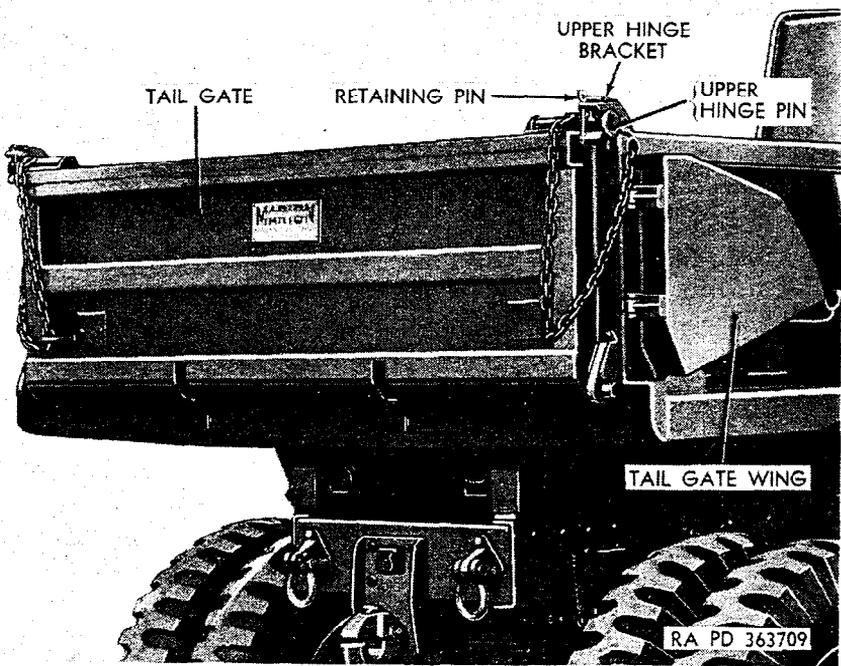
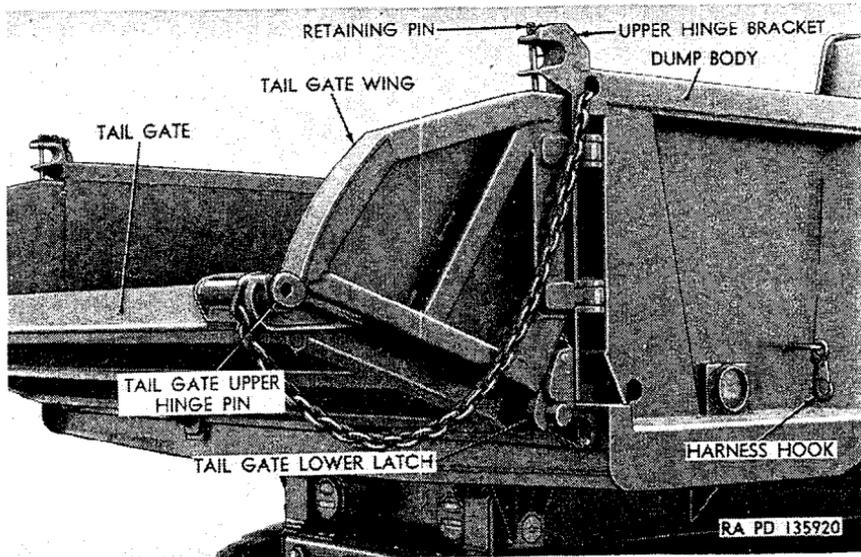

Figure 95. Dump body tailgate in closed position.
Figure 96. Dump body tailgate arranged for rocker operation.
- (8) Push the tailgate-control-rod hand lever up and back as far as it will go to lock the tailgate (fig. 95) in the closed position.
- (1) Position truck for dumping, and stop the truck (par. 46c).
- (2) Unfasten the harness hooks (fig. 95) used to secure the tailgate wings to the sides of the dump body, and swing the tailgate wings to the rear.
- (3) Remove the retaining pins (fig. 95) which secure the tailgate upper hinge pins to the upper hinge brackets (one on each side), and lower the tailgate (fig. 96) so that the hinge pins engage the grooves in the tailgate wings.
- (4) Perform operations described in *b*(3) through (7) above.
- (5) Push the tailgate up and secure it to the upper hinge brackets with the retaining pins (fig. 95).
- (6) Swing the tailgate wings forward and secure them to the sides of the dump body with the harness hooks.
- (11) Push the hand lever up and back as far as it will go to lock the tailgate (fig. 95) in the closed position.